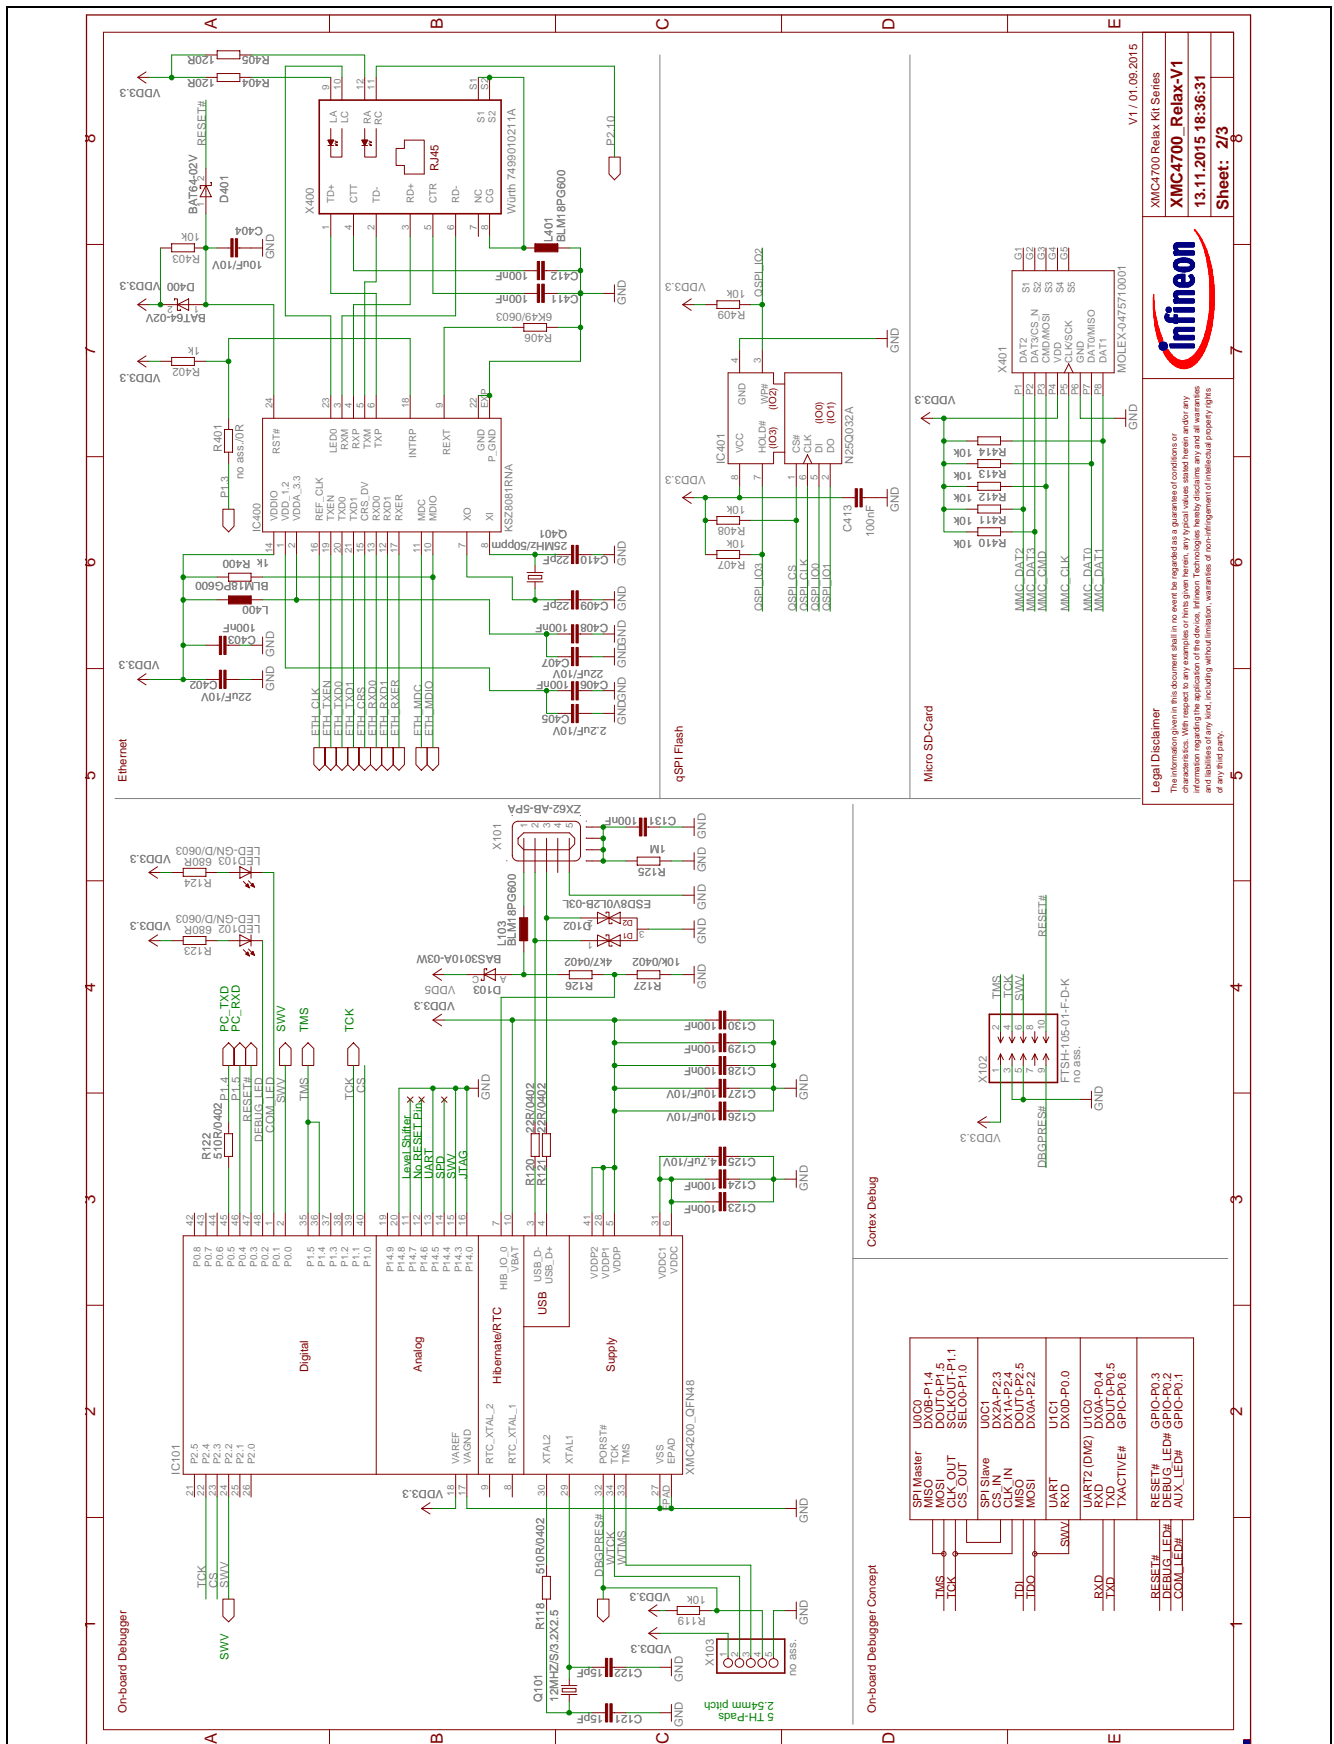

Figure 10 Relax Kit Schematic: OBD Probe, Ethernet, Quad-SPI Memory, microSD Card Slot
- Figure 10: Relax Kit Schematic: OBD Probe, Ethernet, Quad-SPI Memory, microSD Card Slot